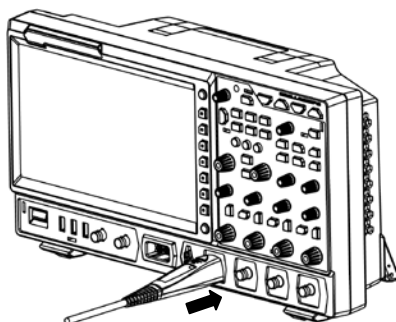

Figure 1-8 To Connect the Active Probe
2. Connect the other end of the preamp to an analog channel input terminal of the oscilloscope on the front panel, as shown in Figure 1-8. Note that you should push the probe to the end to ensure that it is tightly connected.